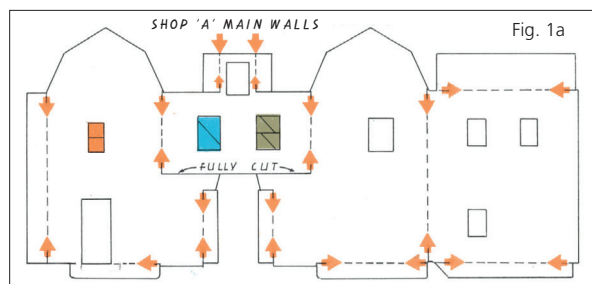

Fig. 1a
1 From SHEET 1 remove as one piece, having noted the red arrow marked scored lines, the two SIDE WALLS, FRONTWALL, BACKWALL and the grey, white and blue TABS (Fig. 1a). Clear the SIDE DOOR and WINDOW apertures, setting aside the four grey and two blue BRACKETS. Also the two small red square pieces which will be used as BRACKETS when assembling the CANOPY later. Take the transparent glazing material and cut away the 'A' windows. Fix the eight windows as instructed in the intro section. Remove the part marked SIDE DOOR and glue it behind its aperture and positioned to touch the TAB below when this has been temporarily bent back at right angles. A narrow gap will be left above the DOOR piece to receive the CANOPY later. Bend right back and glue down for double thickness the four white TABS. Set the two grey TABS at right angles using the grey BRACKETS roughly positioned behind the black dotted lines (Fig. 1b). Similarly, set the blue TAB using the blue BRACKETS. Take the two brown BRACKETS. With the walls lying flat, raise the FRONT WALL to a right angle and glue a BRACKET into the corner formed, just clear of the FRONT WALL's lower edge. Repeat the procedure at the other FRONT WALL CORNER. Complete the BACK and SIDE WALL joint (Fig. 1c). Remove the RIDGE BOARD, bend to an angle and glue it between and just below the tops of the SIDE WALLS.
- Now apply the BARGE BOARDS to the SIDE WALLS. These are set more realistically away from the walls by first applying pieces of the white PACKING (Fig. 1a).